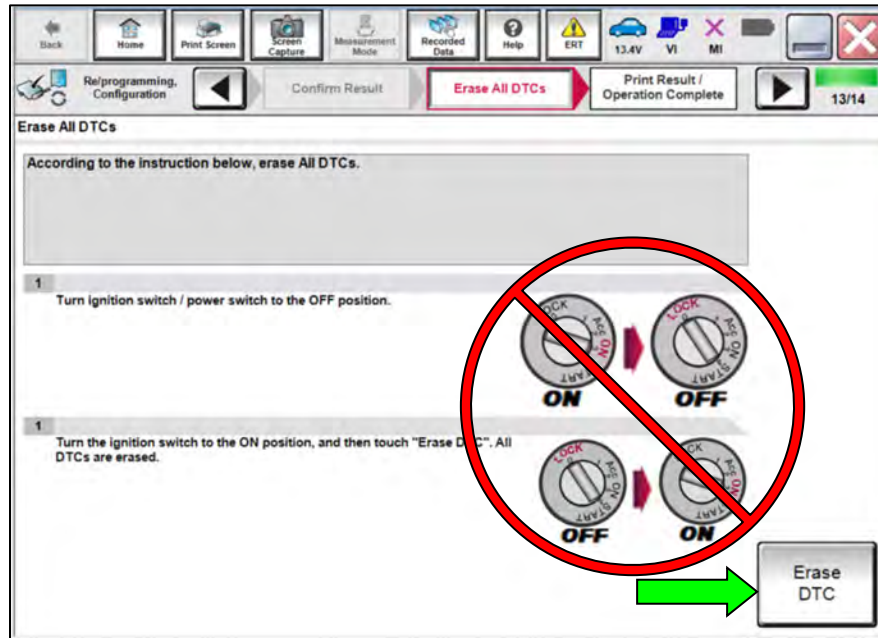

Figure 32
38. Once the screen in Figure 32 displays, select **Erase DTC** only. **DO NOT** change ignition switch position.